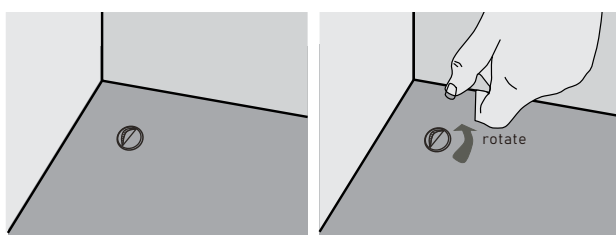

Figure 1
5. Lift out the rubber plug from the internal drain hole inside the freezer (Figure 1).
10. Replace the internal drain plug (Figure 1).